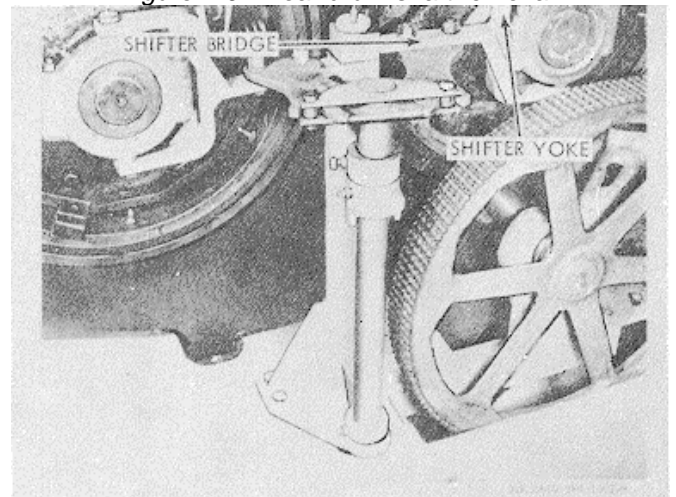

Figure 4-10. Rear drum shaft shifter bridge and yoke.
- (6) Remove retract and swing clutch shifter yokes and hoist clutch shifter screws (fig. 4-10).
- (7) Remove shifter lever bridge.
- (8) Remove right and left bearing housings, which are attached by two bolts in each.